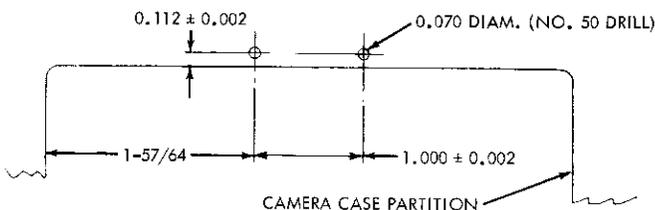

Figure 8C. Drilling Dimensions for New Bellows Installation
- (b) Centrally locate two holes (1 inch center-to-center) 0.112 inch from the horizontal inside edge of the camera case partition. (See figure 8C.)